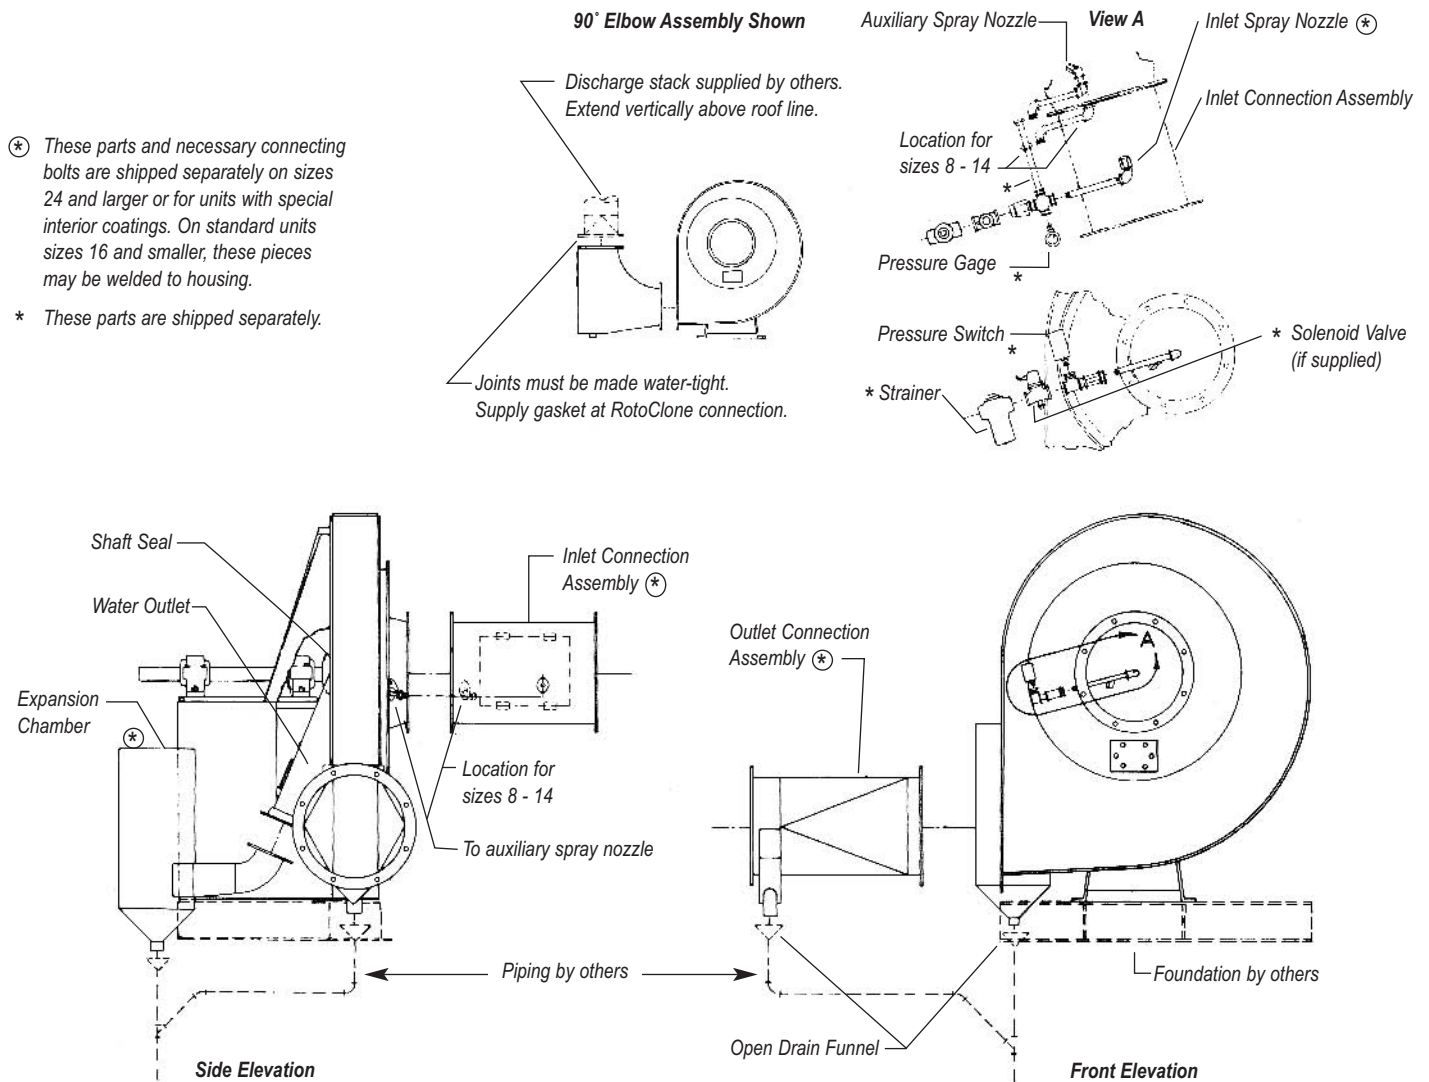

Figure 1 — Installation Diagram
Refer to Installation Diagram - Figure 1. Assembly of the RotoClone should proceed in the following manner sealing all joints using gaskets and bolts included with shipment. Some RotoClones, size 16 and smaller, have inlet, outlet, and expansion chamber welded to housing in lieu of flanged and bolted connections.
RotoClone piping may be shipped loose to prevent damage during shipping. Connect the two lines from the "cross" to the two connections on the RotoClone inlet. The third outlet from the cross connects to the pressure gauge supplied and the front leg should be connected to the water supply line. Supply line should be 3/4" size for RotoClones through size 14; 1" size for size 16 RotoClones and larger and designed for supply line water pressures. Connect the water supply line to strainer located near RotoClone inlet, using pipe at least as large as the strainer connection. The Solenoid Valve, should be installed between the strainer and cross, and should be wired in parallel with the RotoClone motor per the wiring diagram supplied with the unit. Solenoid valves should always be installed with the coil in the top, vertical position. Finished piping should be per Figure 1.
A switch is supplied with the RotoClone which will stop the RotoClone motor automatically when water supply fails or water pressure falls below 28 psi. This pressure switch should be mounted in the water supply line as shown in Figure 1 and wired as shown in the wiring diagram supplied with the unit. (Note: this switch is not supplied, when "Range Hood" controls are supplied - see Section 9.2 for Range Hood controls.)
branch line leads to auxiliary flat spray nozzle within the RotoClone housing. Refer to installation diagram, Figure 1; flat spray should be in the 7 o'clock position with "fan" parallel to the blades of the impeller.
The expansion chamber and outlet connection drains should discharge to an open funnel, so if drain piping plugs up, water will run over funnel and not back up in RotoClone which may cause damage. See Figure 1. Piping from funnel should be equal or larger in size than expansion chamber nipple. This connection can run to (1) sewer or drain line, (2) process, (3) settling tank, or (4) other locations dependent on local conditions/regulations and the amount of material collected by the RotoClone.
The drain from the outlet connection, see Figure 1, should be connected to the sludge pipe from expansion chamber or directly to a drain. Full size piping should be used. Refer to installation diagram Figure 1. Note that a funnel is shown under the drain. This provides easy access to the drain if an obstruction should occur. A plugged drain can cause the water level in the collector to rise into the impeller and the impeller tips will break.